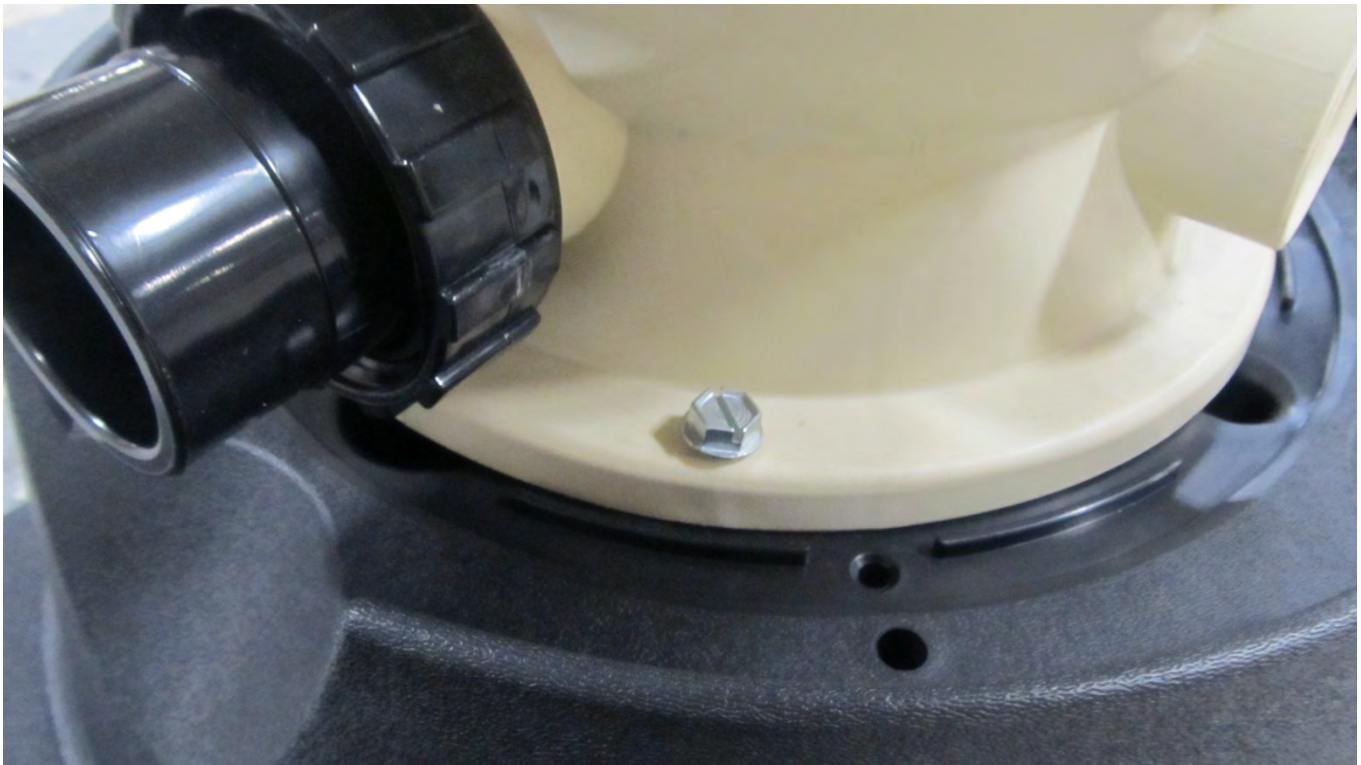

Figure 8
- Install a screw through one of the screw holes in the tank foot into the system base (see Figure 8). Do not fully tighten the screw into the base at this time. Repeat with the other hole located 180° opposite the first one.